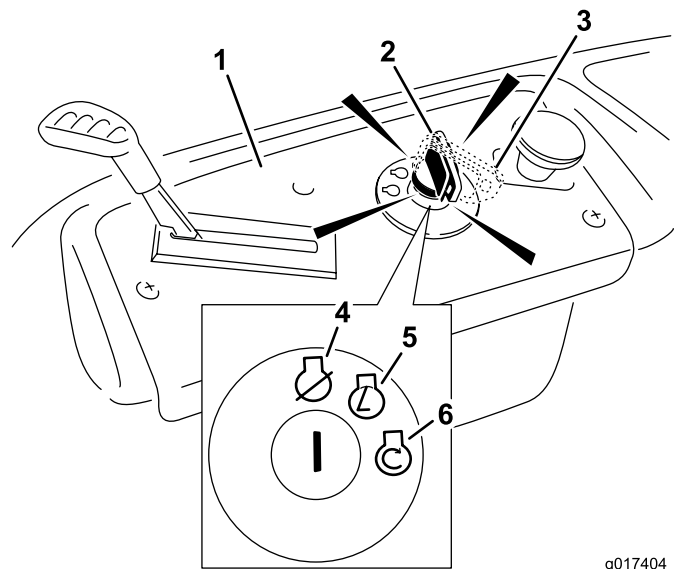

Figure 13
- Turn the ignition key to Start to energize the starter. When the engine starts, release the key (Figure 13).
2. Move the throttle lever to the Fast position (Figure 13).